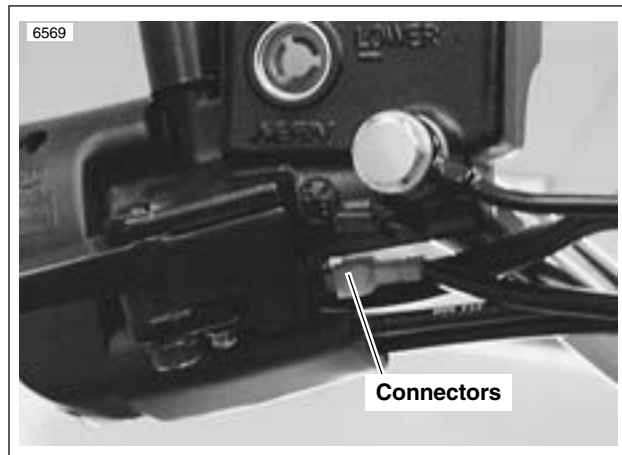

Figure 2-32. Brake Lamp Switch Connectors
- Connect brake line (5) to master cylinder using two **new** banjo washers (4) and banjo bolt (6) (metric). Tighten to 16-20 ft-lbs (22-27 Nm).
- See Figure 2-32. Verify brake lamp switches are secure. Attach wires to switches.